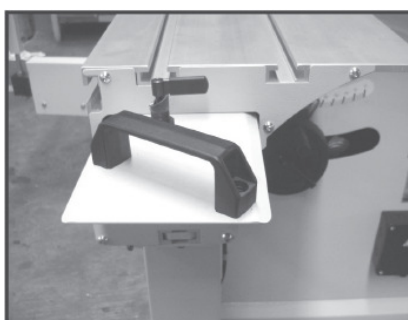

Fig. 5.5
2. Install the end handle of the sliding table with M6 x 16L Button head screws 2pcs, the sliding is located when the table lock is in the right position, (Fig. 5.5) rotate the table lock 180 degree to unlock the sliding table.